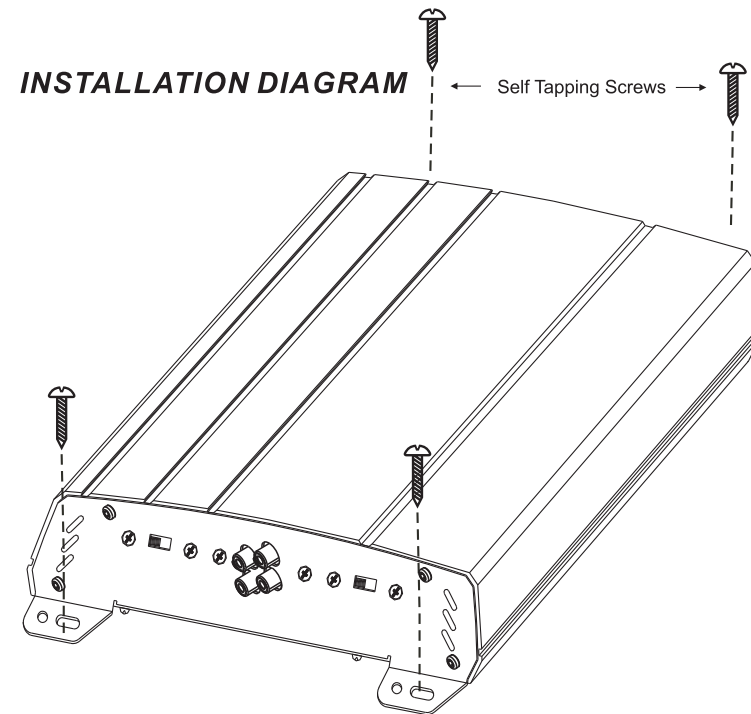

FIG.1
1. After reading precaution, decide where you are going to install the unit. Also, see Fig. 1.